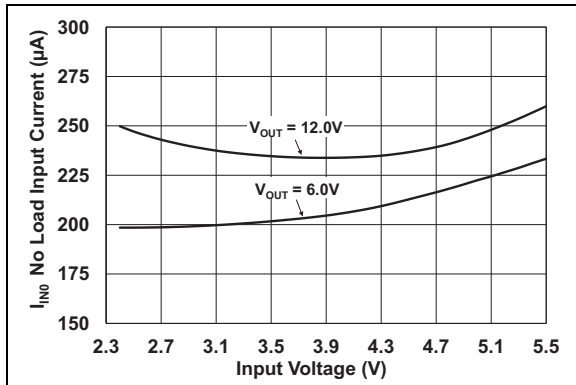

FIGURE 2-8: No Load Input Current, I_{IN0} vs. V_{IN} ($EN = V_{IN}$).
- I_{IN0} varies with input and output voltage (Figure 2-8). I_{IN0} is measured on the V_{IN} pin when the device is switching (EN = V_{IN}), at no load, with $R_{TOP} = 120\text{ k}\Omega$ and $R_{BOT} = 1.05\text{ M}\Omega$.
- 2:** I_{IN0} varies with input and output voltage (Figure 2-8). I_{IN0} is measured on the V_{IN} pin when the device is switching ($EN = V_{IN}$), at no load, with $R_{TOP} = 120\text{ k}\Omega$ and $R_{BOT} = 1.05\text{ M}\Omega$.